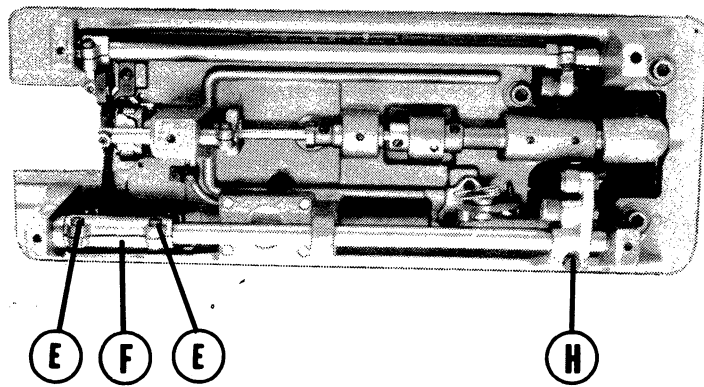

Fig. 27
On machines with horizontal axis loop taker (hook), loosen clamp screws (E) on crank (F, Fig. 27) and rotate crank on its shaft to obtain feed dog travel as described in the preceding paragraph. Be certain to tighten clamp screws upon completion of adjustment.
On machines with horizontal axis loop takers (hooks), proceed in same way except that clamp screw "H" (Fig. 27) fixes the position of the needle bar frame and hence that of the needle in the needle hole. Loosen this screw and, after properly positioning the needle within the needle hole, securely tighten clamp screw "H."